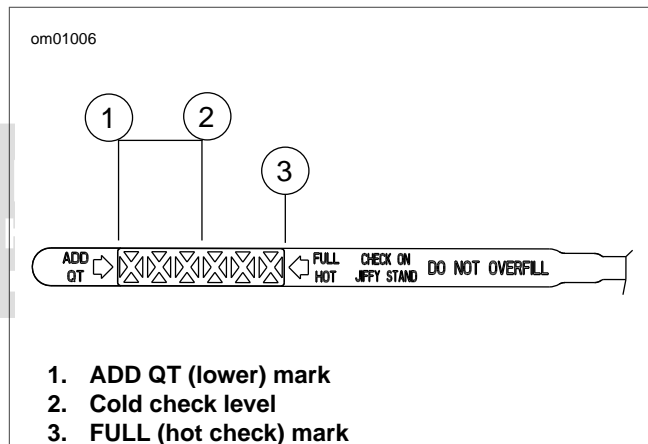

Figure 1-2. Engine Oil Dipstick
3. See Figure 1-2. Again, unscrew and remove filler cap and check oil level on dipstick. If oil level in pan is below lower mark on dipstick, add enough Harley-Davidson oil to bring level up between lower mark (1) and cold check level (2) on dipstick.
4. See Figure 1-2. Again, unscrew and remove filler cap and check oil level on dipstick. If oil level in pan is below lower mark on dipstick, add enough Harley-Davidson oil to bring level up between lower mark (1) and cold check level (2) on dipstick.